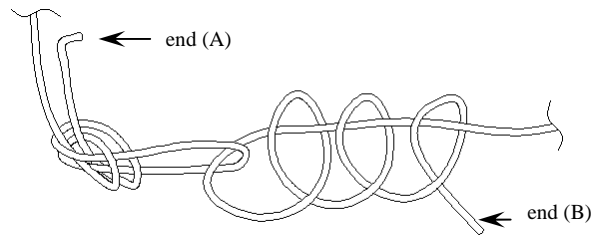

Figure 12: Tying the Rope Ends Together
6. Tie the rope ends together (Figure12) until they are taut. Cut off excess rope, and tape ends to prevent fraying.